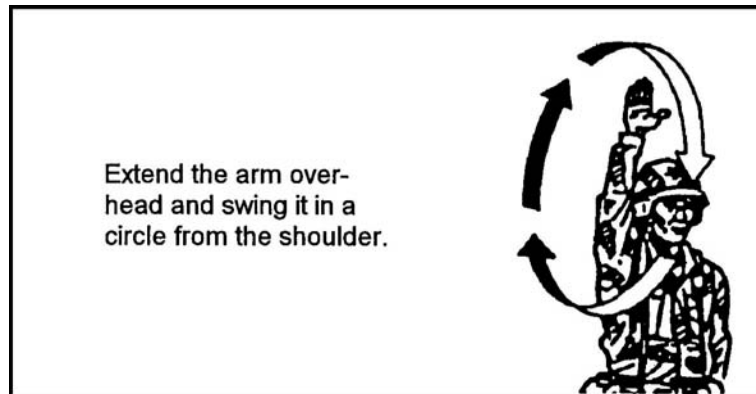

Figure 10. Traveling.
- c. Perform movement technique signals: Traveling, traveling overwatch, bounding overwatch (Figures 10 through 14).